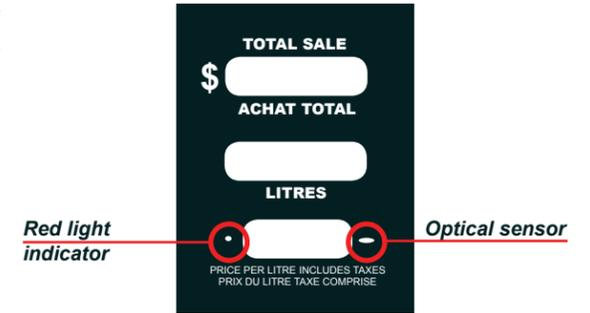

Figure 3: The Micon display
3. Aim the Communicator to the optical sensor, located to the right of the price display; see Figure 3 to the right.